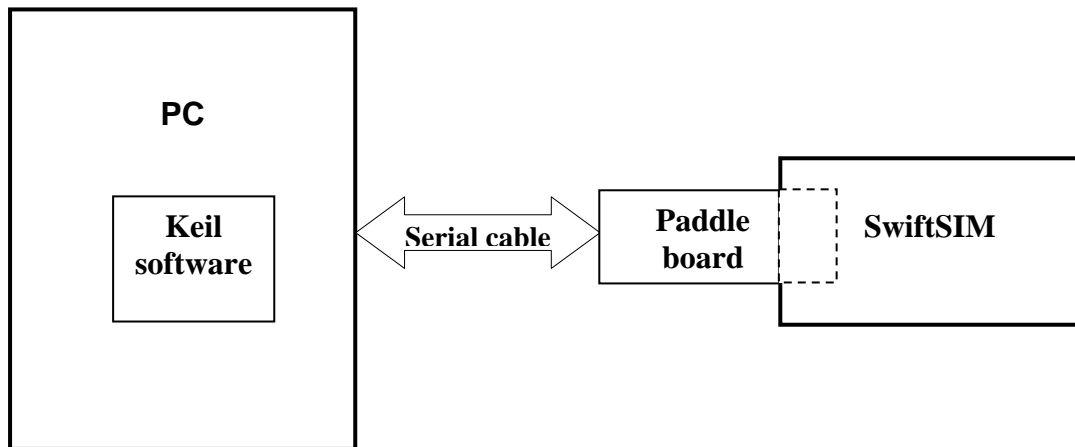

Figure 6: Hardware connection
See Figure 6 for the Hardware connections.
1. Connect the hardware according to Figure 6.